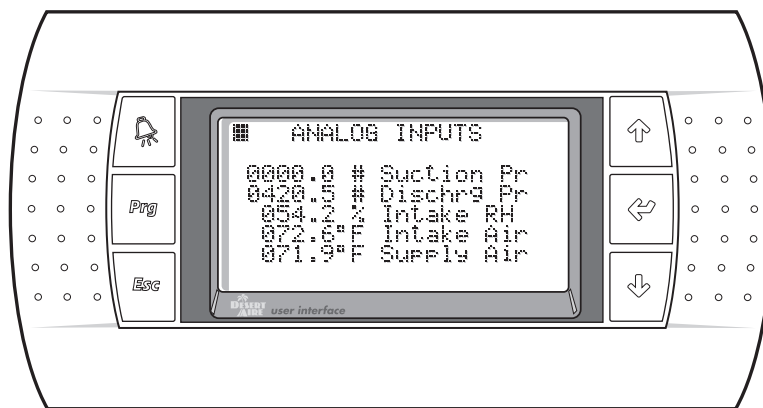

Figure 12
2.3.2.2 Analog Inputs (Figures 12 - 13)
The Analog Input screens will read the values of the sensors wired into the controller. These screens are provided for troubleshooting of the control system. Figure 12 is shown as an example of what these screens looks like. Refer to your schematic diagram for the specific devices provided. Please note that sensors can be wired into ports J2, J3, J6 and J29 of the controller as well as into the EVD evolution valve driver and expansion I/O devices. The calculated values of superheat and sub cooling are also included in this series of screens.